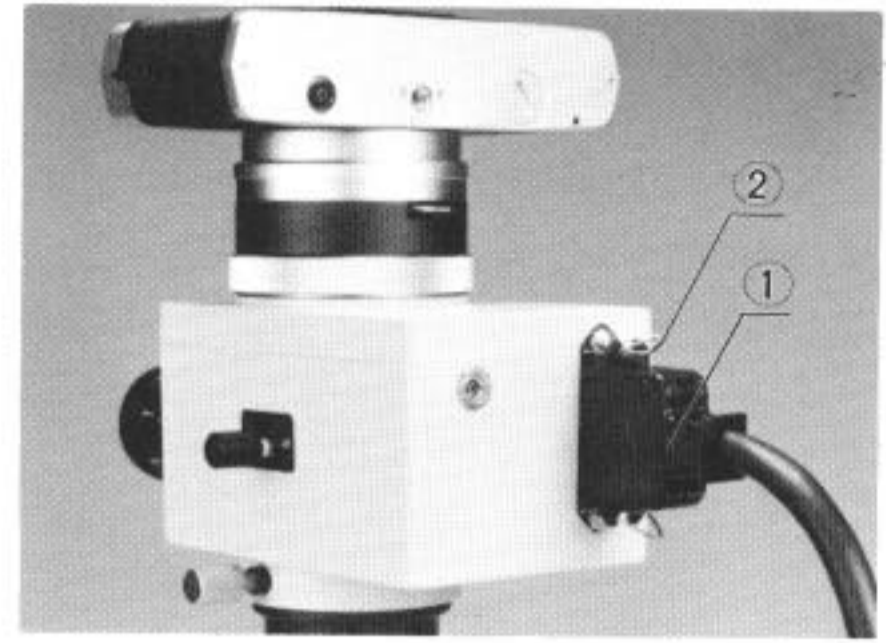

Fig. 12
Plug the connecting cord ① into the jack at the back of the automatic exposure body and clamp with metal snap ② . (Fig. 12)